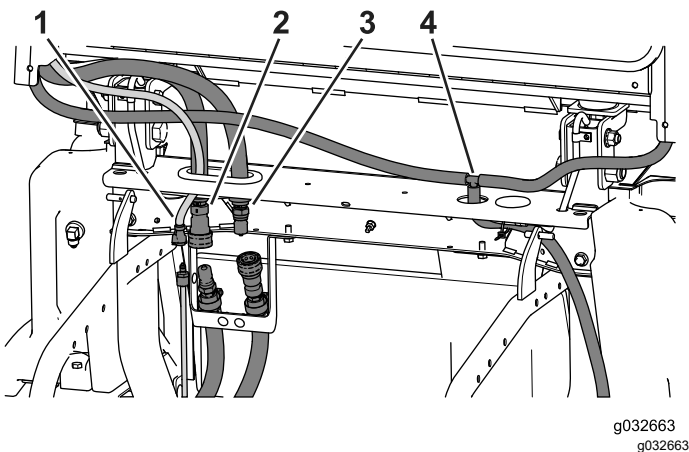

Figure 73
1. Route the washer tube, heater-supply hose, and heater-return hoses through the grommet (Figure 73).
3. Route the drain hose through the grommet and down the lower ROPS tube (Figure 73).